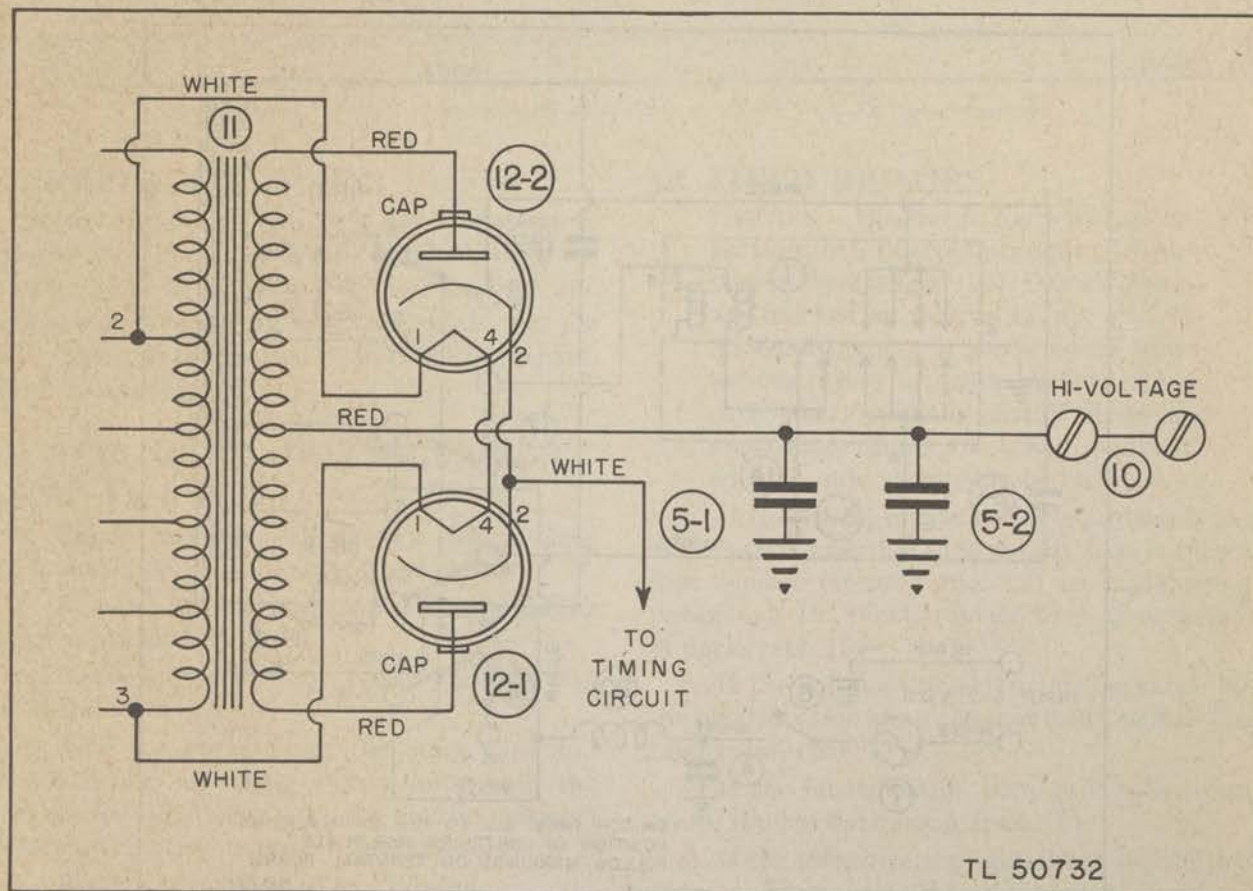

Figure 14. High-voltage secondary circuit, Voltage Converter PP-49/VVX-1.
(2) A 1-mfd, 165-volt a-c capacitor (2-2) serves as the buffer and is connected to the ends of the transformer primary winding.
(3) A 0.5-mfd, 50-volt d-c capacitor (4) is the input RF filter capacitor.
(4) Another 1-mfd, 165-volt a-c capacitor (3-1) and a 5-ohm, $\frac{1}{2}$ -watt resistor (14) serve as the vibrator driver-point suppressors and provide improved vibrator operation.
(5) Another 1-mfd, 165-volt a-c capacitor (2-1) serves as the primary buffer.
b. High-voltage Secondary Circuit (fig. 14).